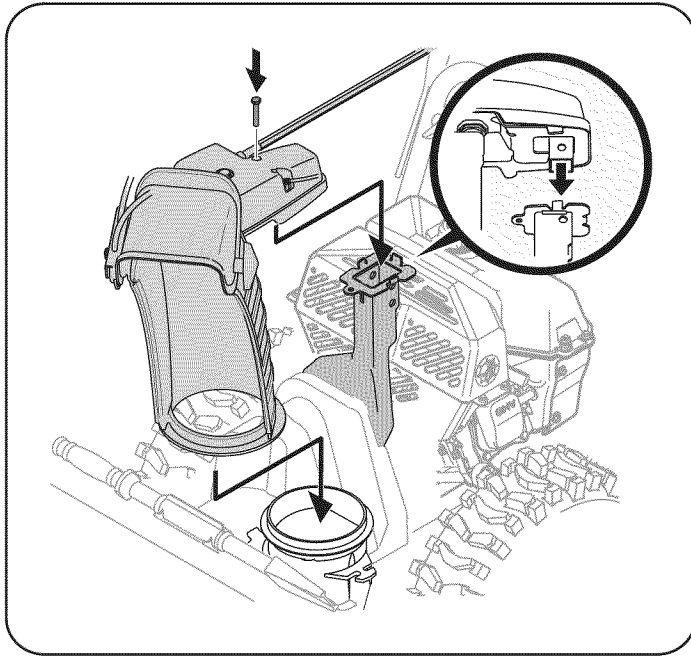

Figure 4
4. Place chute onto chute base and ensure chute control rod is positioned under handle panel. Install hex bolt previously removed but do not secure with wing nut at this time. See Figure 4.